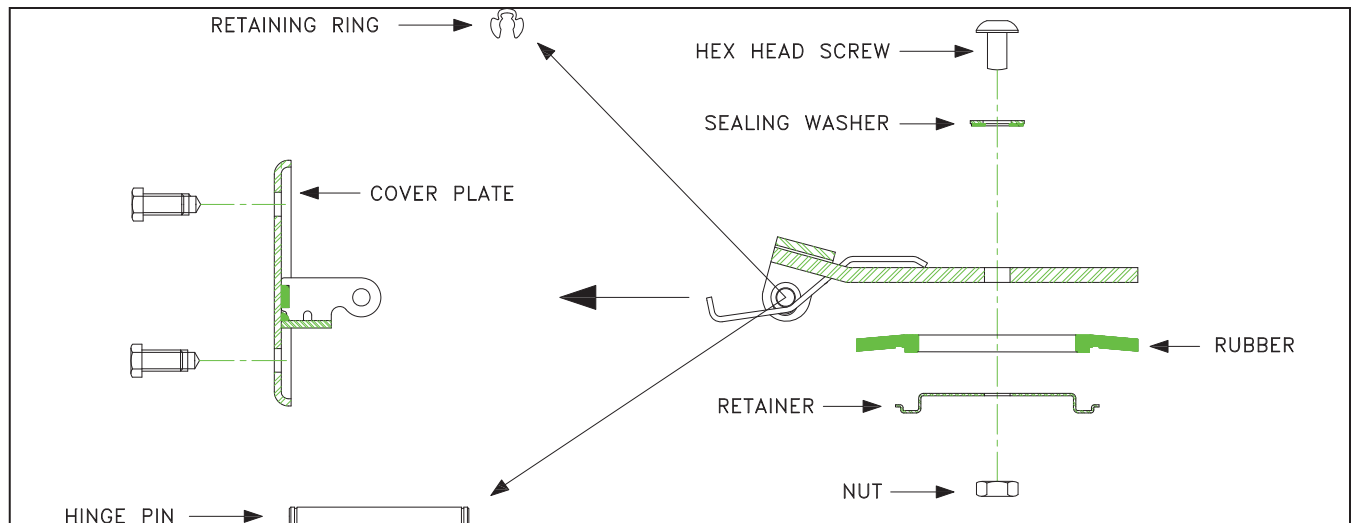

Figure 53
4. To remove the clapper, spring (Model J-1 Alarm Check Valve), and/or hinge pin (Figure 53):